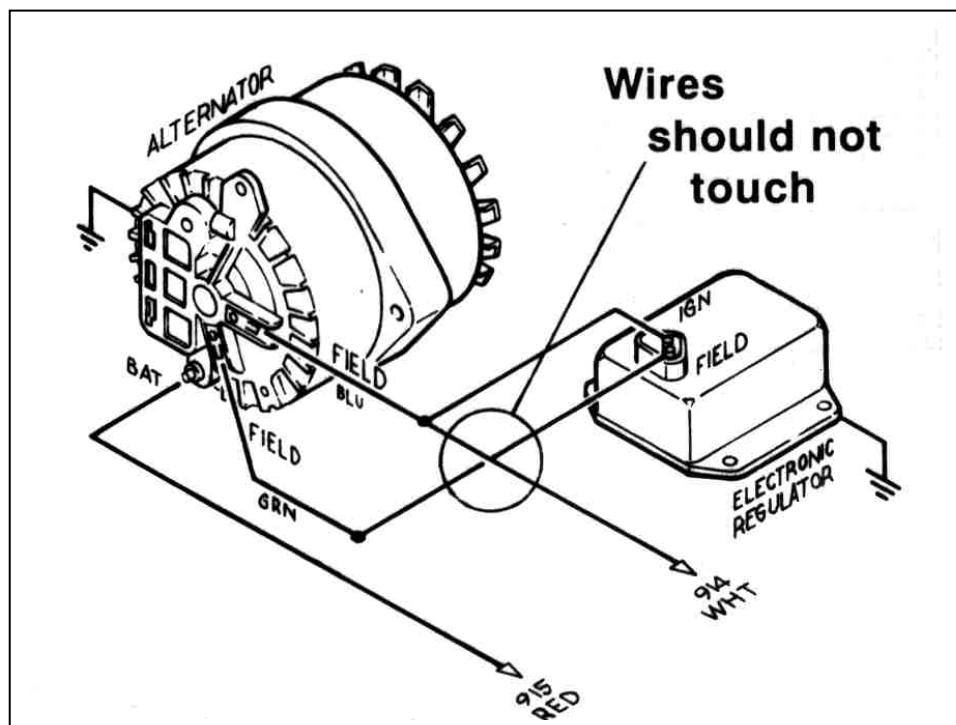

Figure 9-1A Mopar Alternator
9.1.2 Connect ALTERNATOR SECTION wire #914 (wht) to the Alternator Field (F) terminal as shown in **Figure 9-1A**. Connect ALTERNATOR SECTION wire #915 (red) to the Alternator Output lug (Bat).